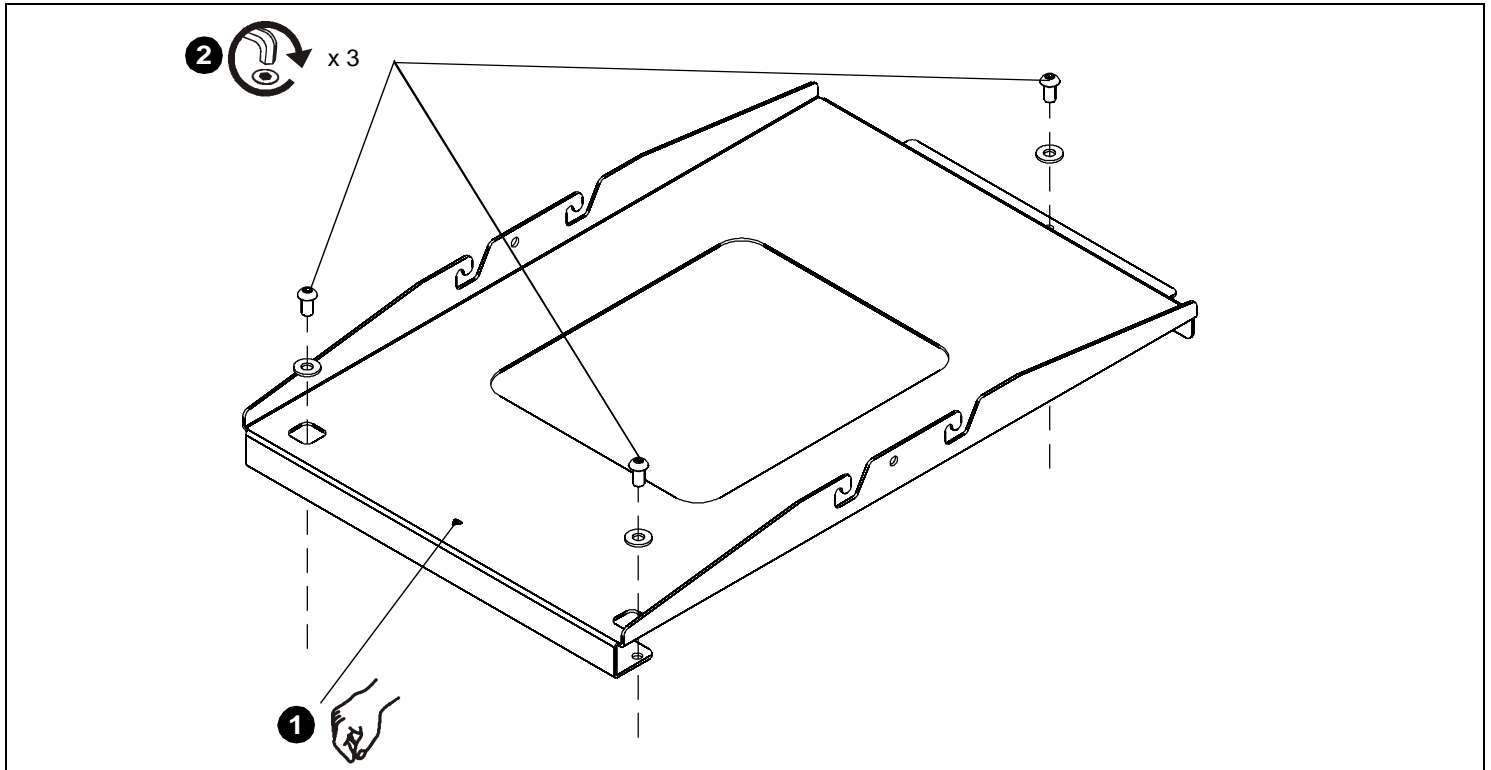

Figure 1
1. Lower custom HB bracket onto top of projector. Ensure that triangle in bracket points toward front of projector. (See Figure 1)
2. Attach HB bracket to projector using three M8 x 16mm button head screws and three M8 flat washers through three holes in the HB bracket. (See Figure 1)